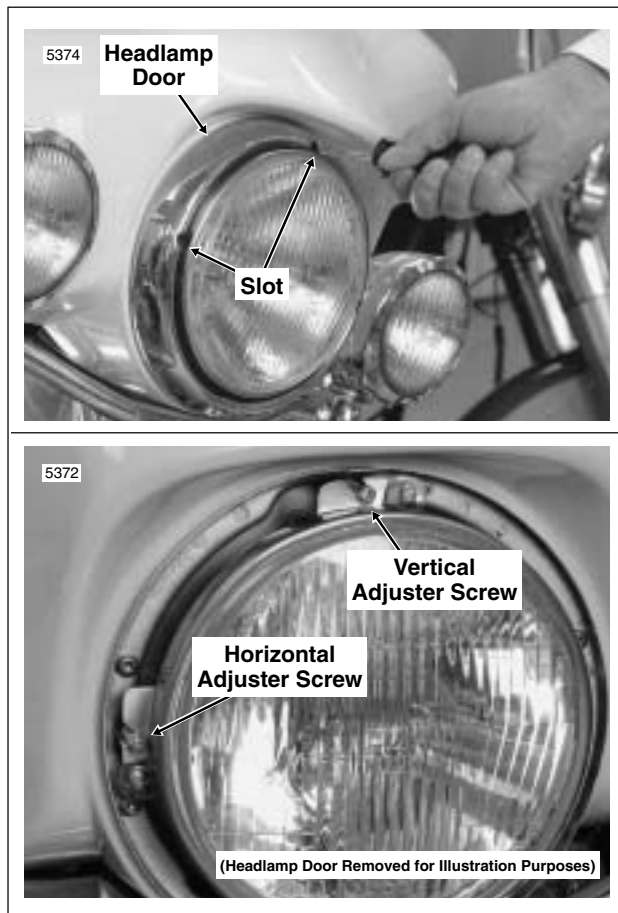

Figure 8-28. Adjust Headlamp Alignment (FLHT/C/U Model Shown)
10. If the headlamp alignment requires adjustment, use slots in headlamp door to insert Phillips screw driver between headlamp housing and rubber gasket. Turn the vertical adjuster screw as necessary to adjust the headlamp vertically. Turn the horizontal adjuster screw to adjust the headlamp horizontally. See Figure 8-28.